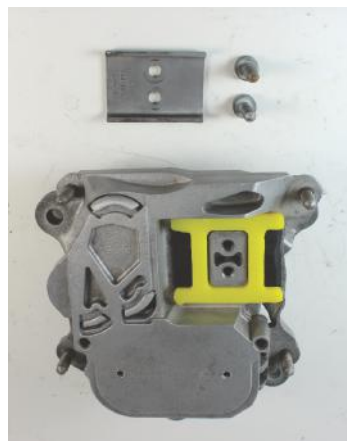

Figure 3: Insert PFF3-726
4. Push Powerflex PFF3-726 into the voids beneath the plate (Figure 3).